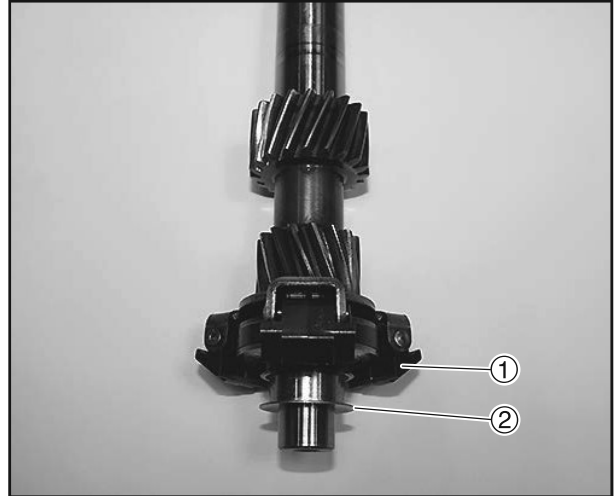

Figure 6-89
5. When installing the input shaft make sure to use the same shim (Figure 6-89, (2)) that was removed. (Figure 6-89, (1)) shows the weights.